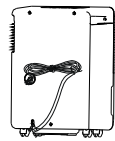

Fig.12
- Wrap the cord and bundle it with the band(Fig.12).